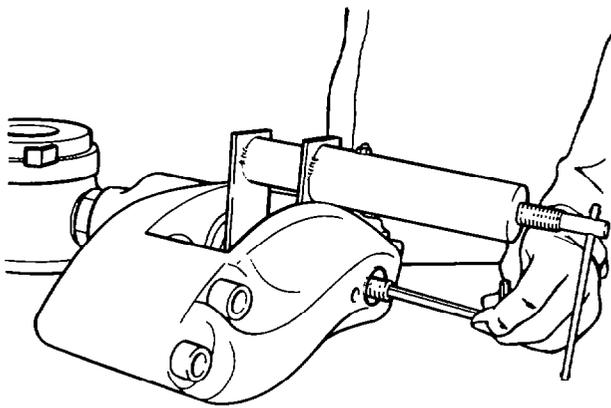

Figure 76 Adjusting the Outer Pistons
- h. Using an allen key, turn the outer adjusting screw counterclockwise, at the same time keeping tension on the pistons by adjusting the length of Special Tool No. 17 (see Fig 76); continue this procedure until the piston is fully home in the bore.